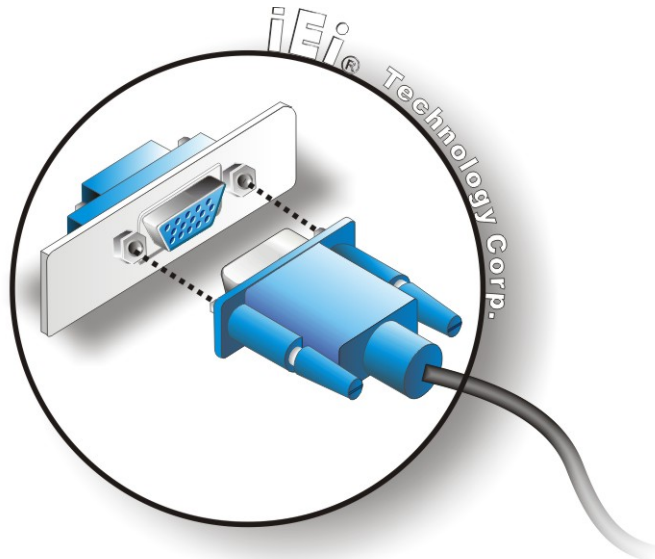

Figure 4-13: VGA Connector
Step 3: Insert the VGA connector Once the connectors are properly aligned with the insert the male connector from the VGA screen into the female connector on the WAFER-PV-D4251/D5251/N4551. See Figure 4-13.